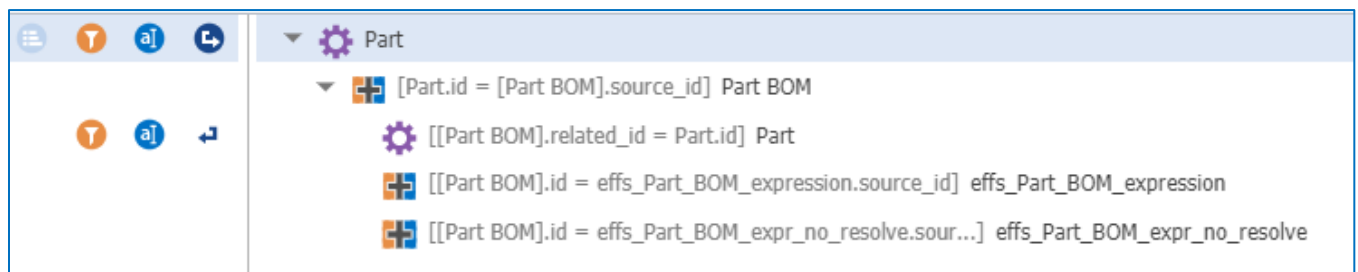

Figure 19.
1. Add the **Effectivity** relationship twice with different aliases as shown in Figure 19.